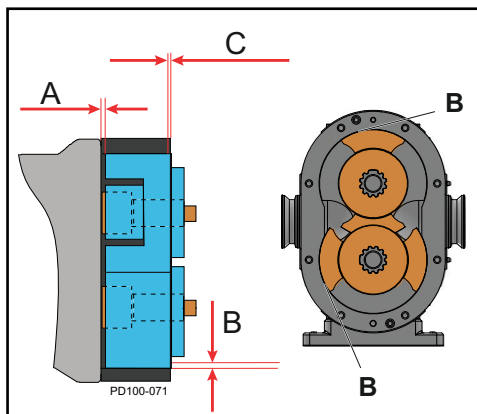

Figure 86 - Measure Clearance
9. Measure the rotor backface clearance (Figure 86, item A) through the port or from the front. The backface clearance for both rotors must be the same to prevent rotor crossover contact and must be ± 0.0005 " of the value found in Table 6, "Rotor Clearances," on page 52.
10. Check the rotor front face clearance (Figure 86, item C).
11. Check the rotor to body clearance (Figure 86, item B).